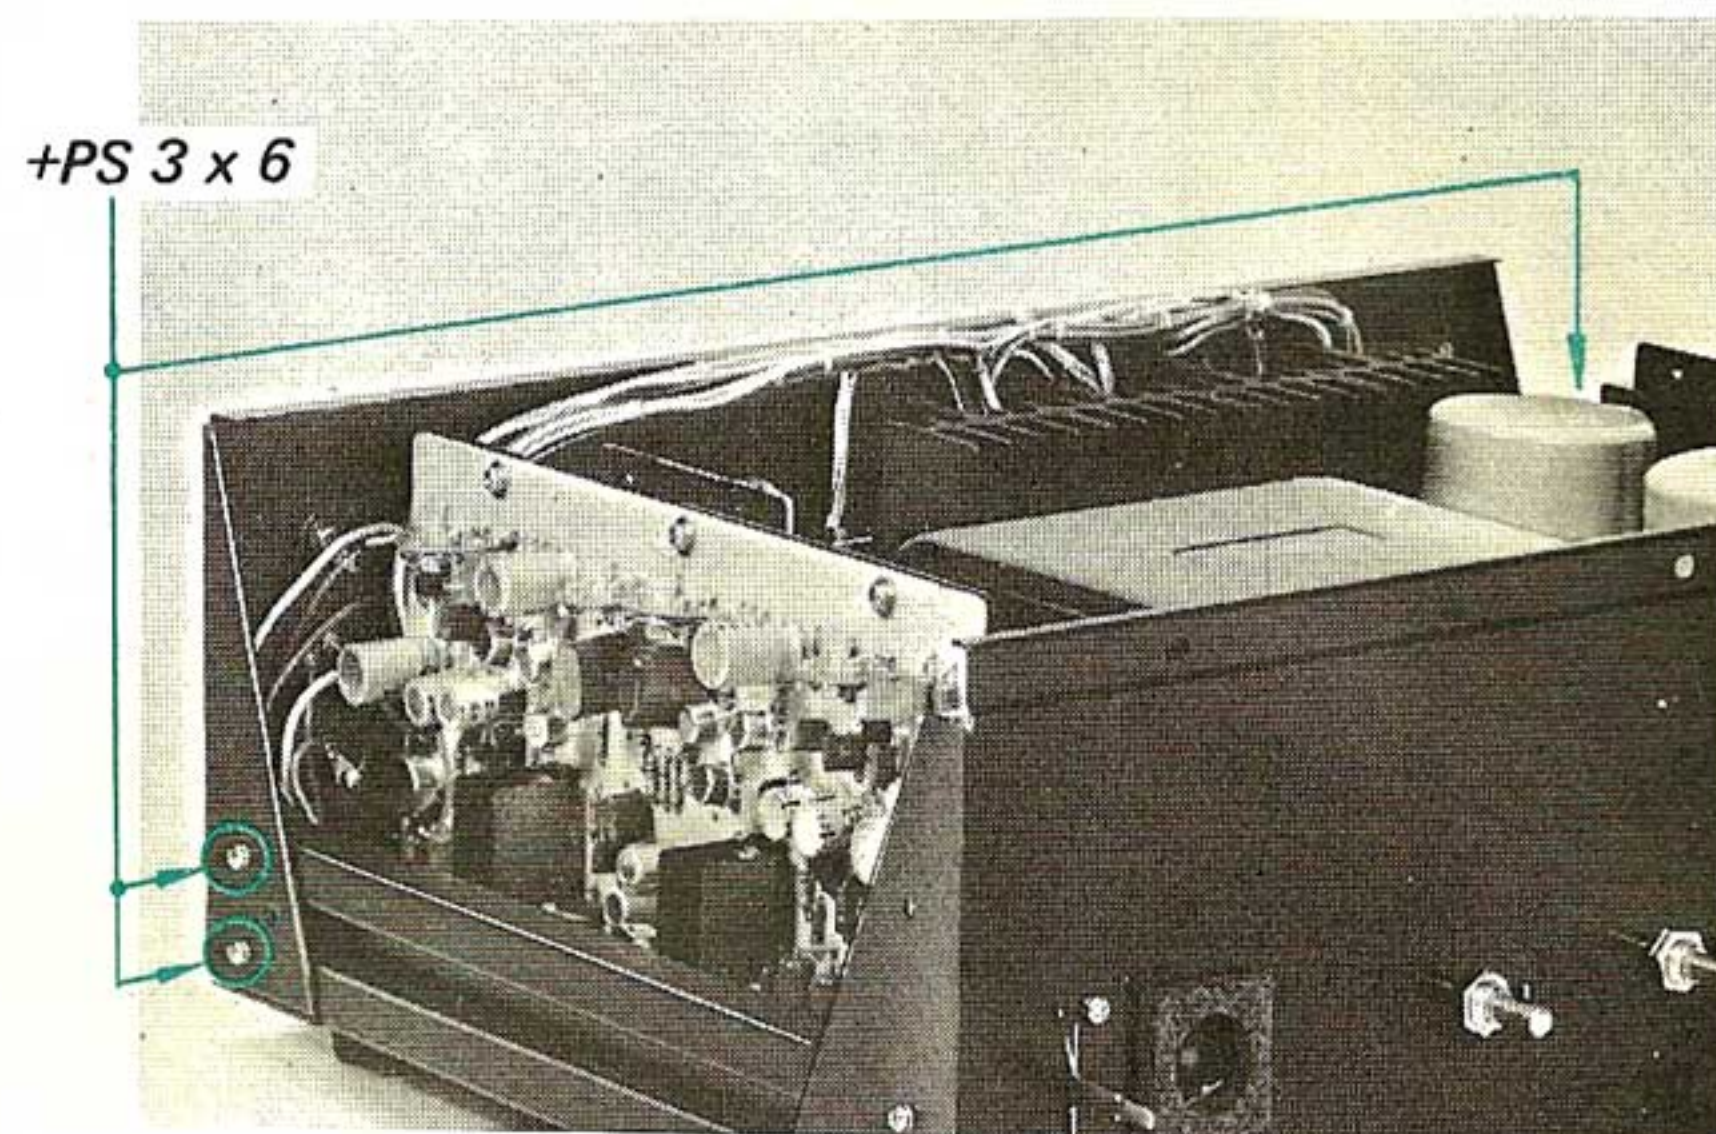

Fig. 2-9 Rear panel removal
2. Remove the two screws (+PS 3 X 6) at each side of the rear panel as shown in Fig. 2-9. This frees the rear panel.